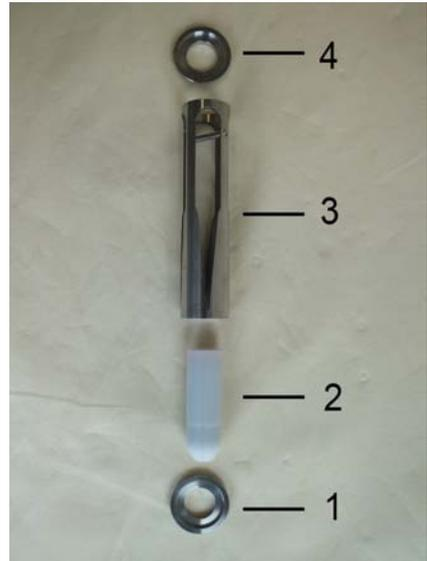

Fig. 44: Inner parts
6. ➤ The inner parts of the flow monitor consists of the centering disc (inlet) (Fig. 44/1), float (Fig. 44/2), slot nozzle (Fig. 44/3) and centering disc (outlet) (Fig. 44/4).